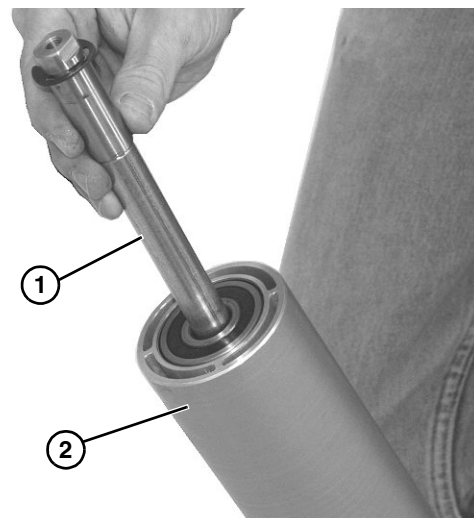

Figure 37
6. Slide the shaft assembly (**Figure 37, item 1**) out of the pulley (**Figure 37, item 2**).